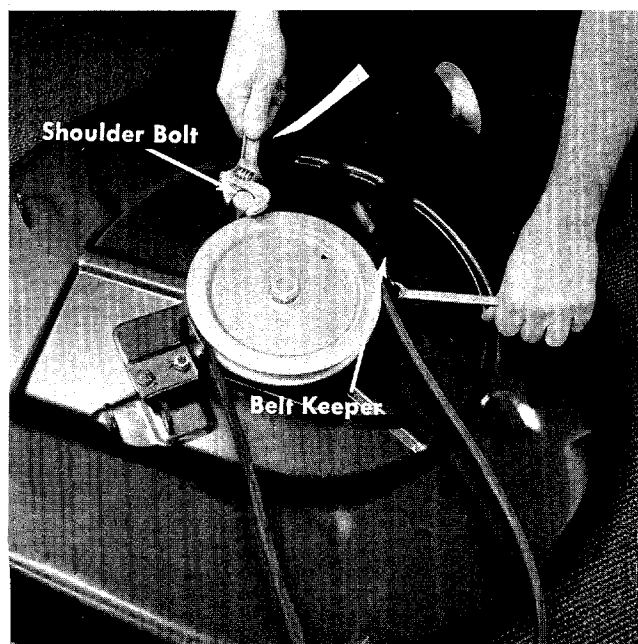

FIGURE 24. 25" DECK
- Step 8. **Removing the blade belt 25" models.** See figure 24.